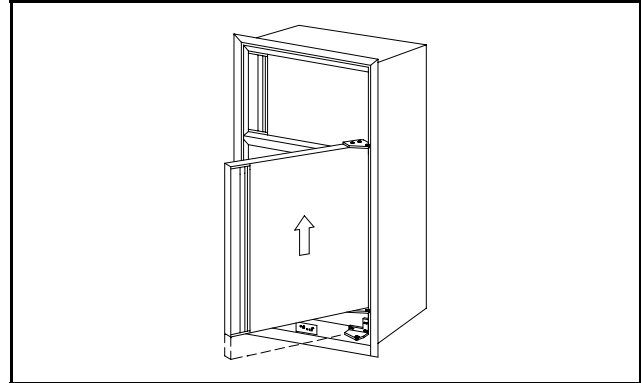

Figure 11
6. Remove the lower door by opening slightly and pulling the top of the door away from the refrigerator. Allow room to lift up and off the bottom hinge pin shoulder (see Figure 11).